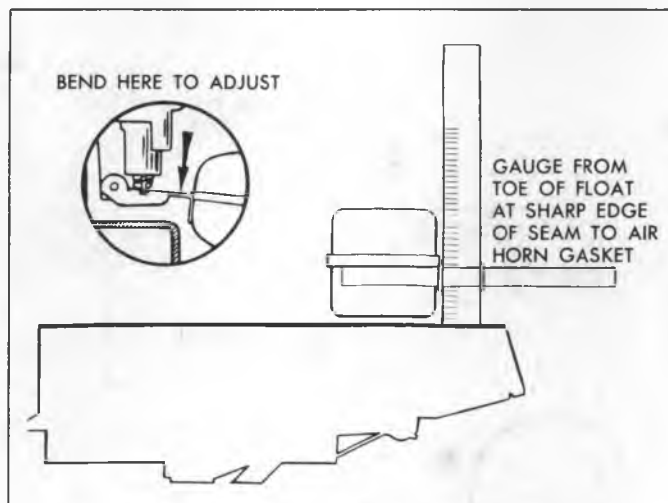

Fig. G7--Float Level Adjustment (Brass)
1. With air horn inverted and air horn gasket installed measure the distance from the air horn gasket to the lower edge of the float seam at the outer end of the float pontoon. To adjust, bend the float arm at rear, as shown in inset (Fig. G7).